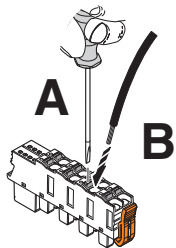

Figure 8-3 Connecting a stranded cable
- Open the spring by pressing the screwdriver onto the spring lever (Figure 8-3, A). Use, for example, a bladed screwdriver with a blade width of 2.5 mm. Phoenix Contact recommends the SZS 0,4x2,5 screwdriver (see Section “Ordering data” on page 130).
- Insert the cable in the terminal point (B).